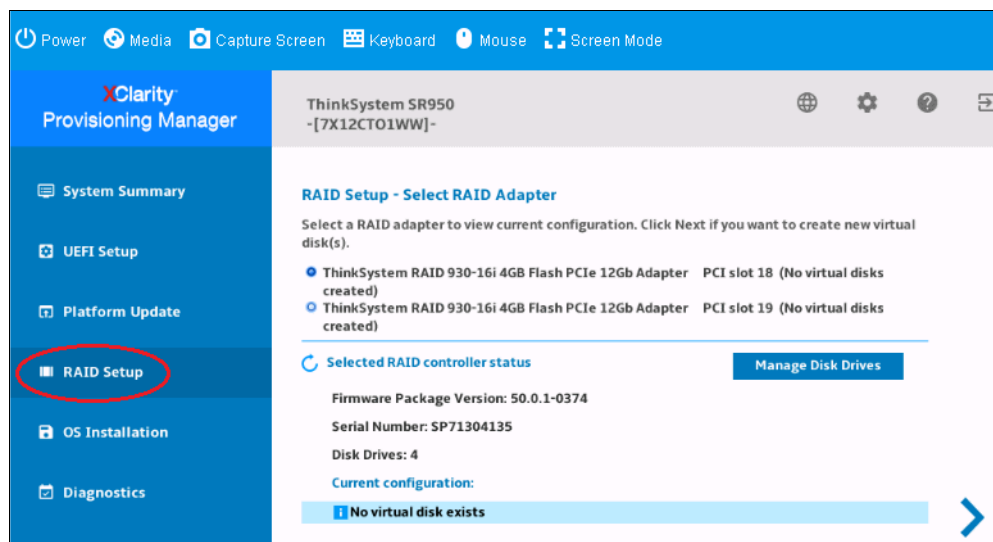
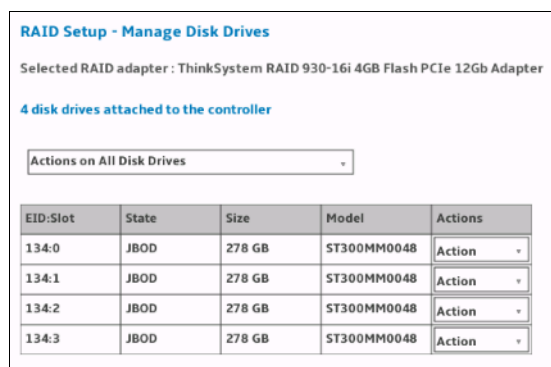

Figure 5-12 LXPM RAID setup screen
Figure 5-13 RAID Setup - Manage Disk Drives
LXPM allows you to configure RAID on the server. Click **RAID Setup** via the navigation menu as shown in Figure 5-12.
1. Select the RAID adapter from the Select RAID Adapter section and click **Manage Disk Drives**, as shown in Figure 5-12 on page 135. The Manage Disk Drives page appears, as shown in Figure 5-13.